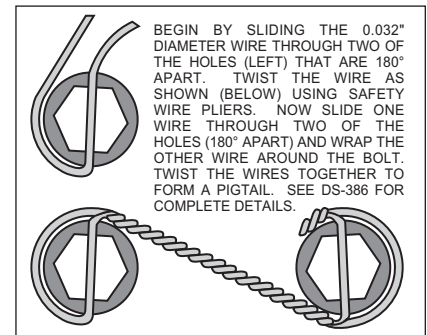

Figure 6. Safety Wire Diagram
- Slide the bracket kit assembly (1) onto the housing flange and then insert the axle assembly through the center hole of the bracket kit assembly (1). Align the bearing retainer (2) with the four holes inside the bracket assembly (1) and secure using the stock Original Equipment Manufacturer (OEM) bolts and nuts. Stock OEM hex nuts that retain the bracket kit assembly (1) and retainer (2) should be on the wheel side of the bracket. Apply red *Loctite*® 271 to the stock OEM bolt threads and torque to OEM specifications. Make sure the bracket kit assembly (1) brake pads are **FACING OUTWARD TOWARDS THE WHEEL**.
- With the larger I.D. side of the rotor (4) facing away from the hat (3), bolt rotor (4) to hat (3) through the backside of the rotor using washers (5) and bolts (6). Torque bolts (6) in an alternating sequence to 103 **in-lb**. Safety wire bolts (6) using standard 0.032 inch diameter stainless steel safety wire as shown in Figure 6. Please refer to Wilwood's data sheet DS-386 (available at www.wilwood.org/ds386.pdf) for complete safety wire installation instructions.
- Align the correct hole pattern in the hat (3) with the stud pattern on the axle flange. **NOTE:** Some OEM and aftermarket axles come with stud sizes larger than 0.50" diameter. Verify stud size and have a qualified machine shop drill the hats to the correct size, if necessary. Slide the hat/rotor assembly (3 and 4) over the wheel studs covering the bracket kit assembly (1) and against the axle flange face. Check to be sure the hat seats squarely against the hub. Install a couple of lug nuts (finger tighten) to keep the rotor/hat assembly in place while continuing with the installation.